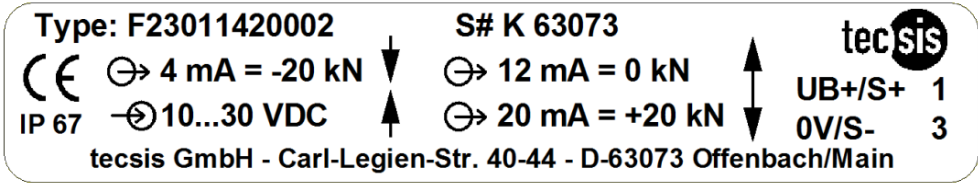

Fig. 1 Name plate Standardversion - 1x connecting plug – output signal 4...20 mA
- The output signal is noted on the name plate (Fig. 1 to 3, p. 31).
- The connection assignments are also noted on the name plate (Fig. 1 to 3, p. 31) and can also be found in the section entitled "Electrical connection". The polarity must be correct at all times.
The plug or cable connection assignments can be found on the name plate (Fig. 1 to 3, p. 31). Unless otherwise agreed, the following assignments are used as standard.